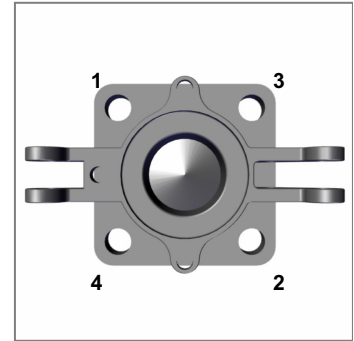

Figure 3-1 Tightening Sequence
- 3.1.8 Install the nuts and tighten them in 1/3-torque increments in a diagonally alternating sequence, as shown in Figure 3-1. Consult gasket manufacturer for recommended torque requirements.